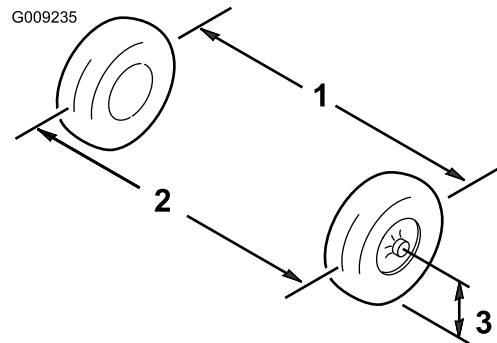

Figure 33
3. Measure the distance between both of the front tires at the axle height at both the front and rear of the front tires (Figure 33).